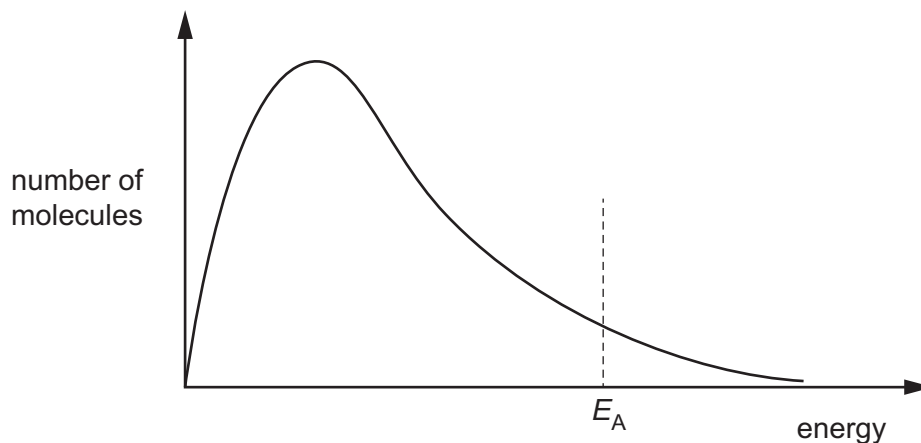

Fig. 3.1
Fig. 3.1 shows the distribution of energies of $\text{H}_2(\text{g})$ molecules at temperature T .
- (i) Sketch on Fig. 3.1 the shape of the curve for the same sample of $\text{H}_2(\text{g})$ molecules when the temperature is increased. [2]